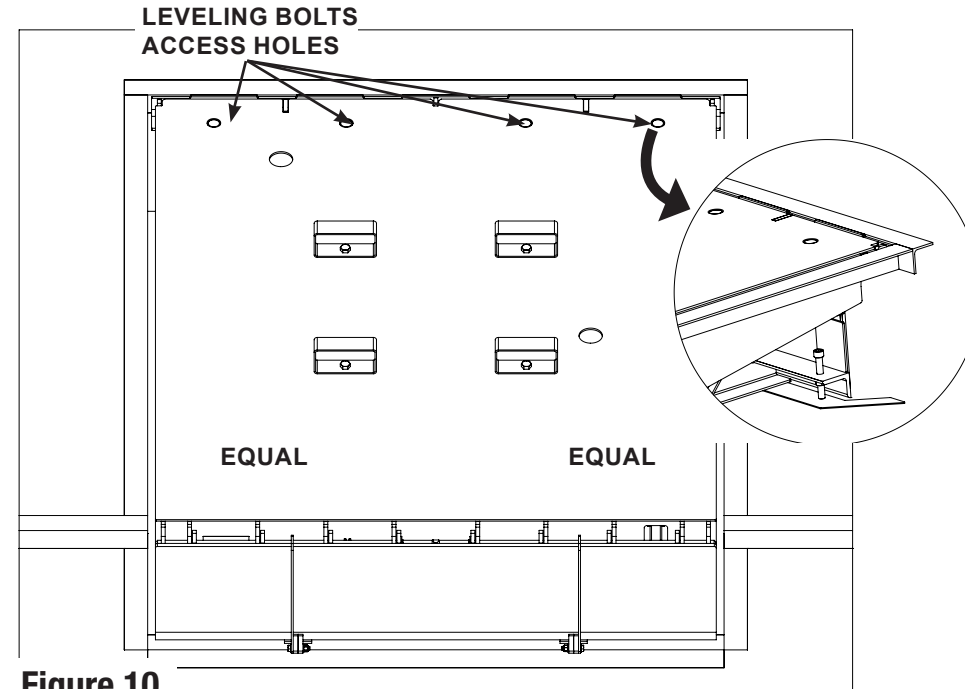

Figure 10
1. Leveling bolts have been provided in the rear to help adjust the vertical position without shimming. Adjust the leveling bolts until the rear deck of the leveler is even with the warehouse floor. See **Figure 10**.